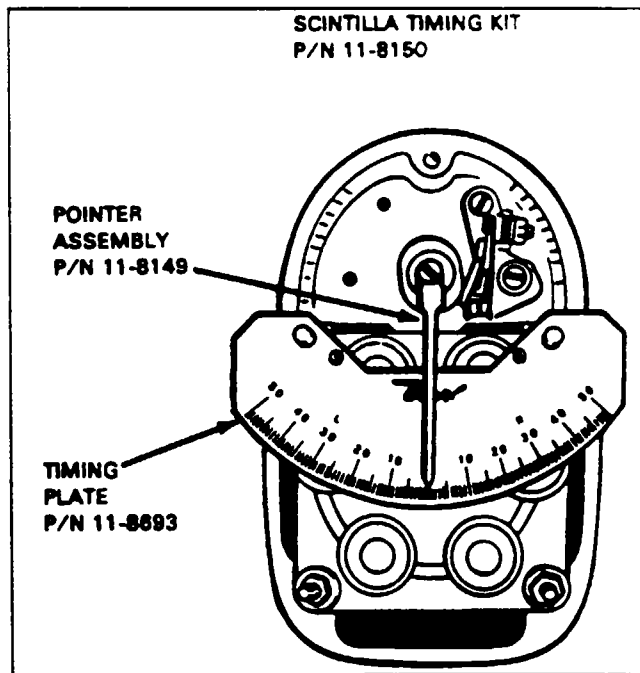

Figure 74-4. Timing Kit Installed
- D. Install the 11-8693 Timing Plate Assembly and the 11-8149 Pointer Assembly of the 11-8150 Scintilla Timing Kit to breaker compartment of magneto. (Refer to Figure 74-4.) Align pointer assembly with the 0° mark on timing plate. Loosen adjusting knob of 11-8465 Rotor Holding Tool and turn rotating magnet in normal direction of rotation until pointer indexes with the respective E gap mark ($15^\circ \pm 2^\circ$). Tighten adjusting knob of 11-8465 Tool and remove the 11-8149 Pointer Assembly from magneto. Using a timing light, adjust main contact points to just open. This adjustment shall be made by rotating cam, in opposite direction of rotation, a few degrees beyond point where contacts close. Then rotate cam in normal direction of rotation until contacts just open. While holding cam in this exact position, push cam on magnet shaft as far as possible with the fingers. Extreme care must be exercised in this operation. If cam adjustment is changed in the slightest degree, the timing of the magneto will be thrown off. Do not drive cam on shaft with a mallet or other instrument. Tighten the securing screw thereby drawing the cam down, evenly and tightly. Torque screw to 16-20 inch-pounds. Loosen the 11-8465 Rotor Holding Tool adjusting knob and return rotating magnet to neutral position. Reinstall the 11-8149 Pointer Assembly over 0° mark on timing plate. Rotate magnet shaft in normal direction of rotation and check for opening of main contact points at E gap setting ($15^\circ \pm 2^\circ$).